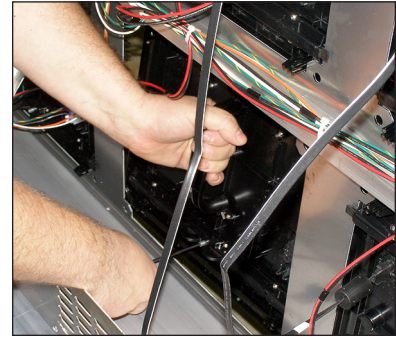
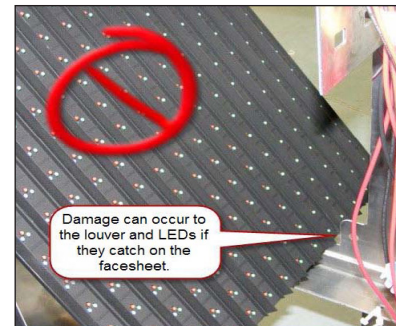

Figure 13: Proper Module Removal From Back
Figure 14: Improper Module Removal From Back
7. Rotate the module in a way that allows you to guide it through the frame opening without catching the louvers or LEDs on the cabinet. **Figure 13** shows proper module removal from the rear. **Figure 14** shows improper module removal from the rear.